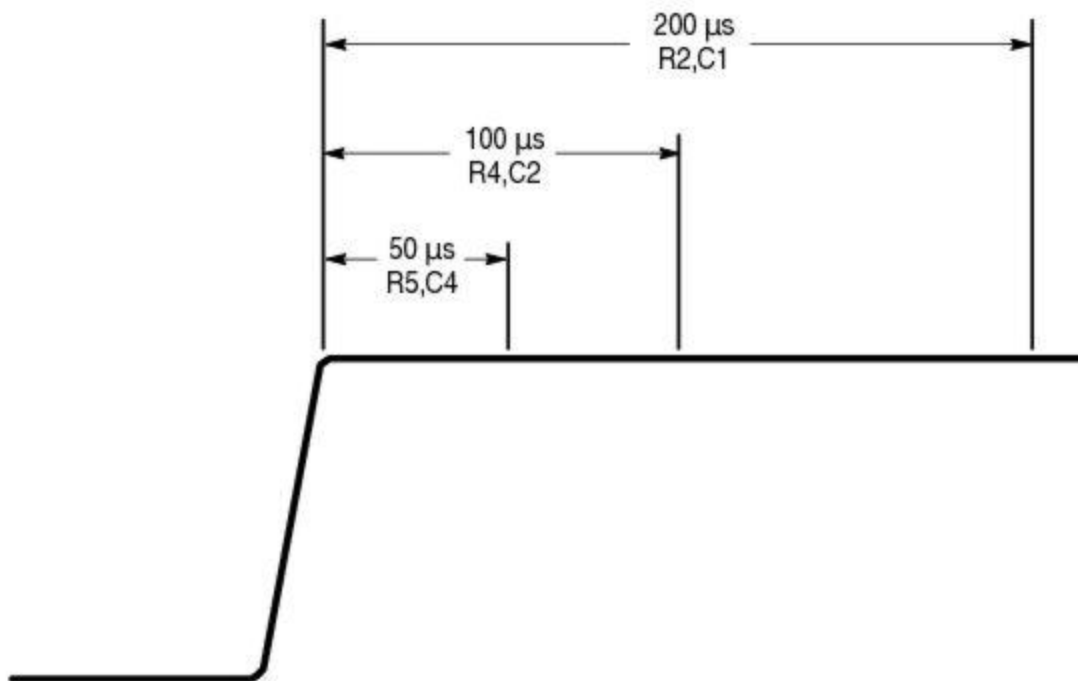

Figure 2-3: Periods Affected by Compensation Adjustments
6. Adjust **R2** and **C1** to flatten the area 200 μs from the leading corner. Refer to Figure 2-3 to locate the zones affected by the adjustments in this and the following steps.
NOTE. *Figure 2-3 shows an idealized waveform. The displayed waveform will include some ground lead ringing.*